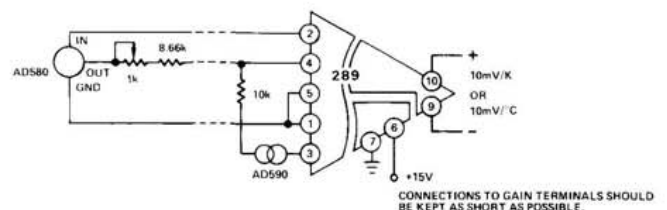

Figure 18. Isolated Temperature Measurement
**Temperature Measurement:** Figure 18 shows the model 289 providing a ground-referred output in an application measuring the temperature of an object floating at a high common mode voltage. The AD590 temperature sensor sinks a current of  $-1\mu A/K$ . This current flows into the gain terminal of the model 289, developing  $+10mV/K$  across the internal feedback resistor. This voltage also appears at the output of the model 289.